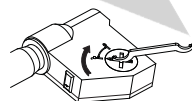

fig.3
---Put the battery cover back and turn clockwise to fix it (fig.3)